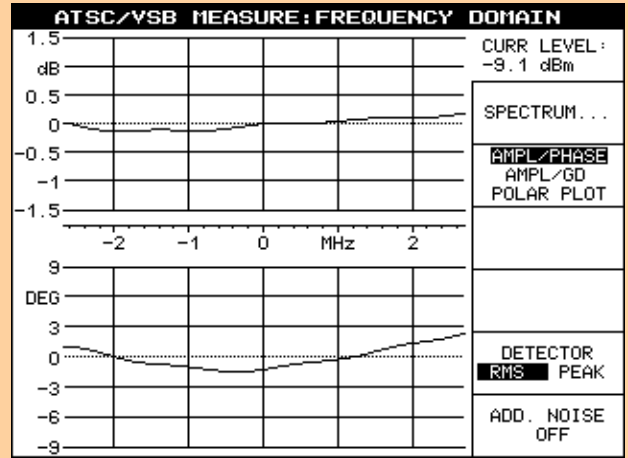

Fig. 5: Ghost pattern
- ◆ Received echo signals (ghost pattern, Fig. 5)